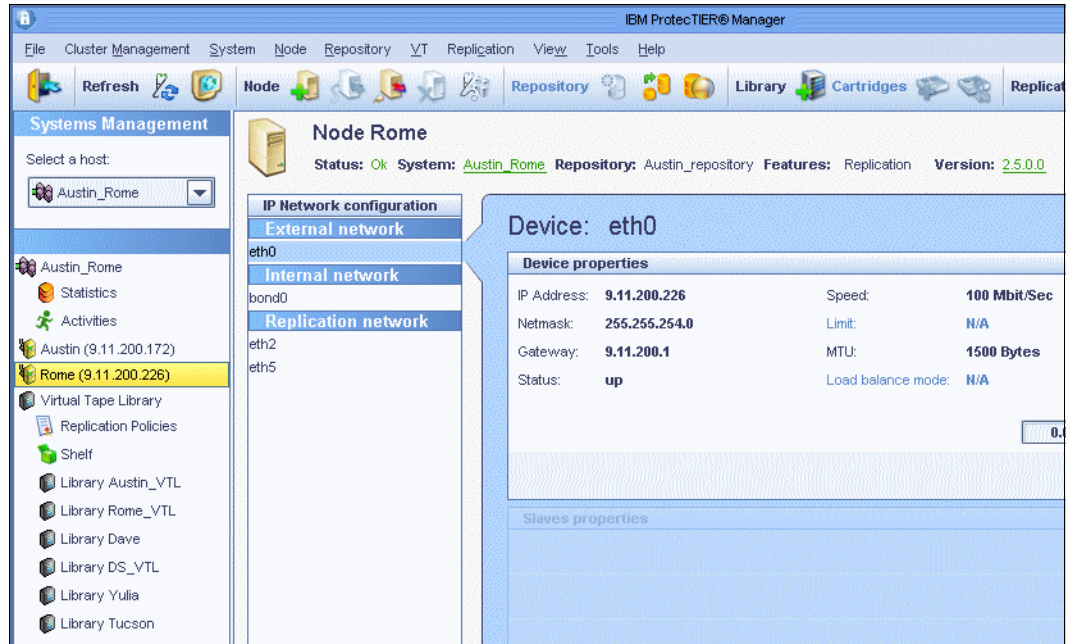

Figure 10-82 Remove cluster member select node window
1. From the nodes pane, select the node that you want to remove from the cluster (Figure 10-82).